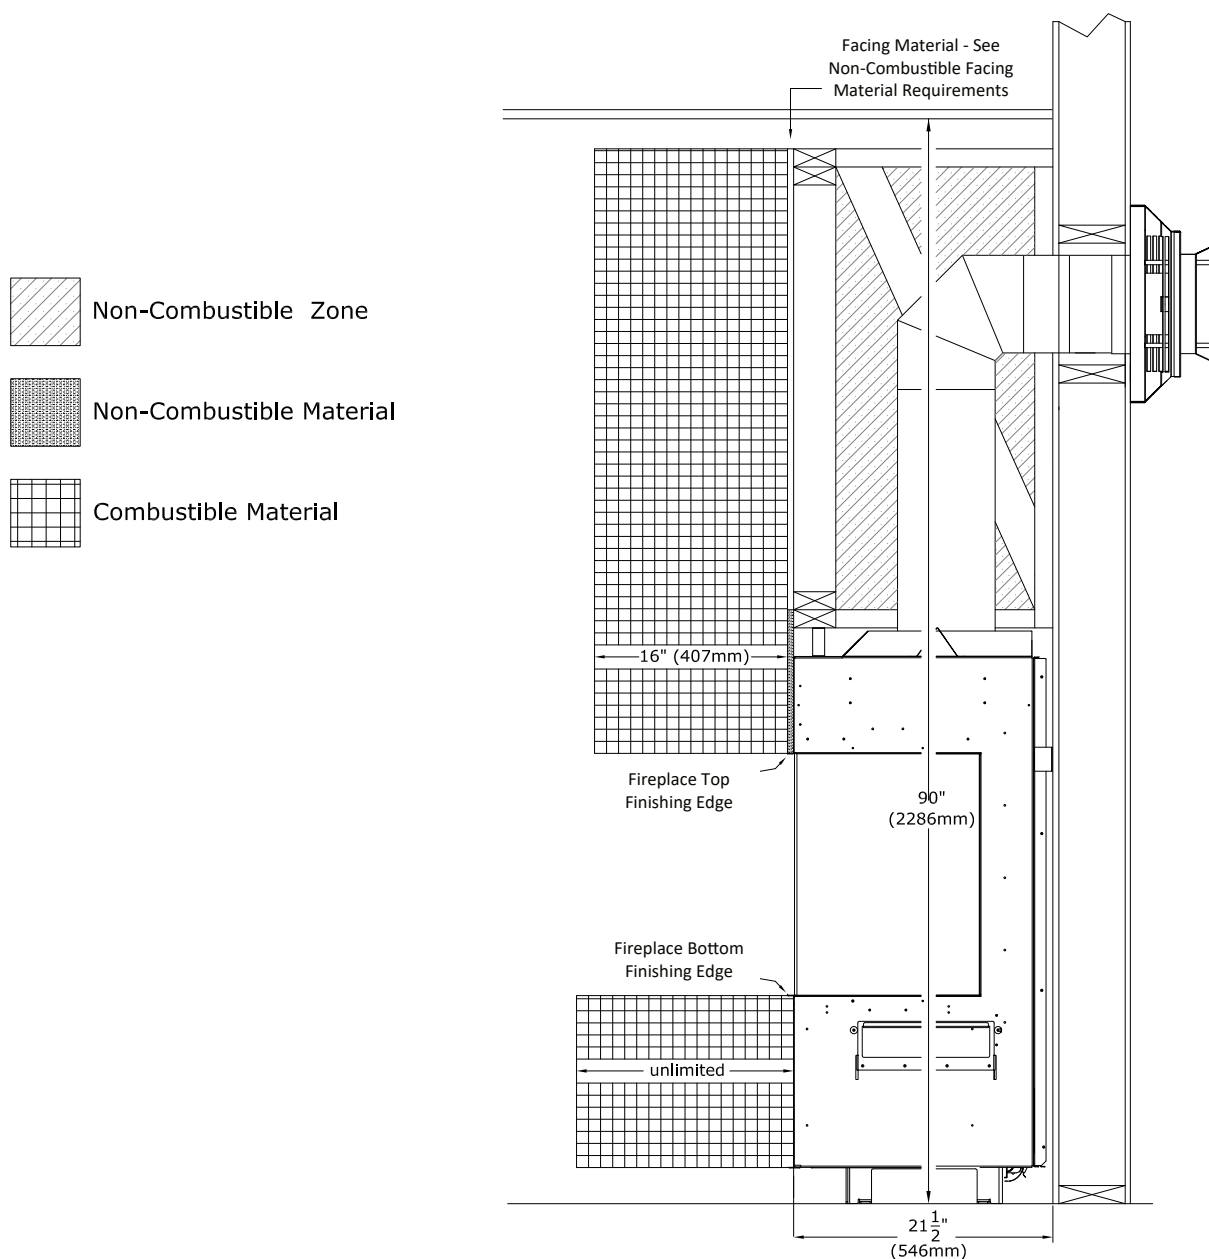

Figure 3.34 - Chamber and Hearth Projection
- **Combustible Chamber Projections:** A maximum of a 16" (406mm) chamber projection can be installed flush at the side and top finishing edge of the fireplace. See Figure 3.34.
Figure 3.34 shows a 16" front chamber projection with a vented cavity. The air intake and heat release openings of the fireplace chamber must maintain their clearances for the option you have chosen throughout the entire fireplace chamber and projection.